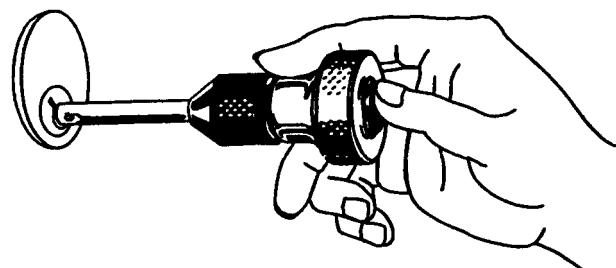
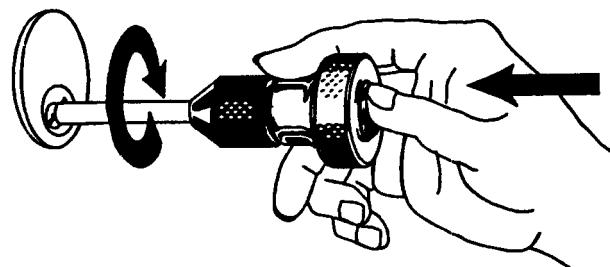

Fig. 6
Fig. 7
3. Holding the Flip-It tool as in Fig.6, insert the tip of the Flip-It into the keyway of the plug, holding the Flip-It steady and push the black button with your thumb (see Fig.7).